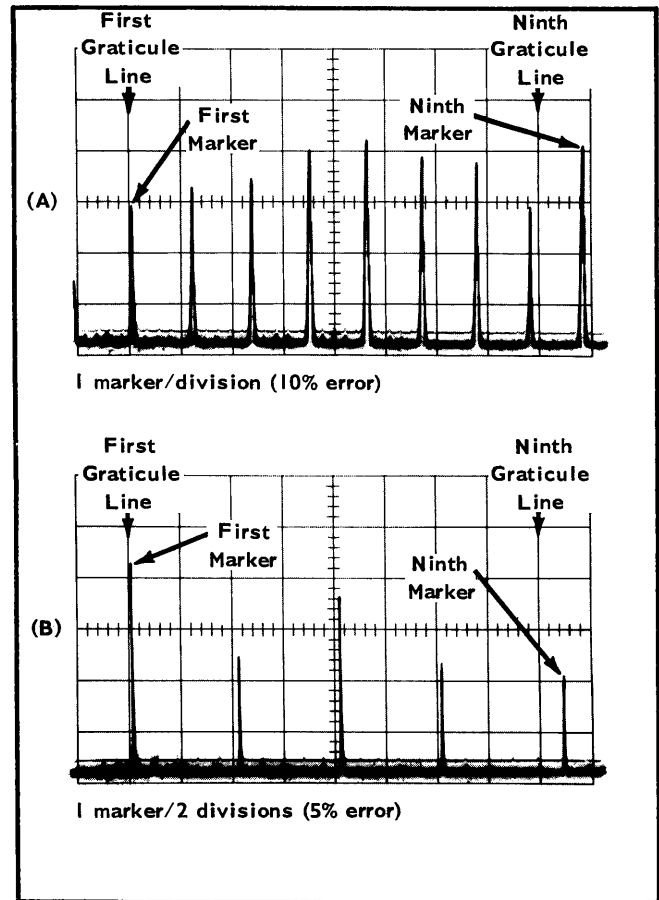

Fig. 6-5. Typical Dispersion accuracy displays (Step 2).
marker. If the display should have 2 divisions/marker, then check the displacement of the fifth marker from the ninth line. (See Fig. 6-5.)
b. At each DISPERSION/CM setting of Table 6-1, readjust the front-panel DISP CAL adjustment to align markers with the first and ninth graticule lines. (See Fig. 6-5.) The IF CENTER FREQ controls may be rotated slightly away from center to position a marker at the first graticule line.